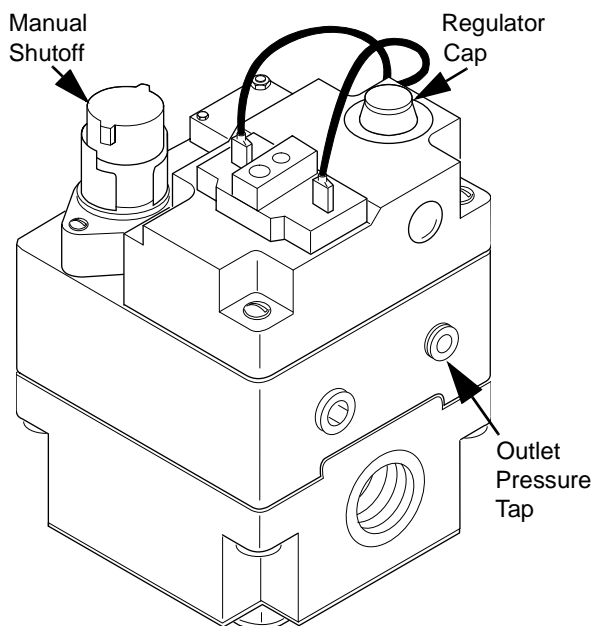

FIGURE 30 : TYPICAL GAS VALVE
3. Turn gas valve knobs to on position (Refer to Figure 30).
2. Depress knob of gas valve while turning to off position. (Refer to Figure 30).
Small adjustments to the gas flow may be made by turning the pressure regulator adjusting screw on the automatic gas valve. Refer to Figure 30.